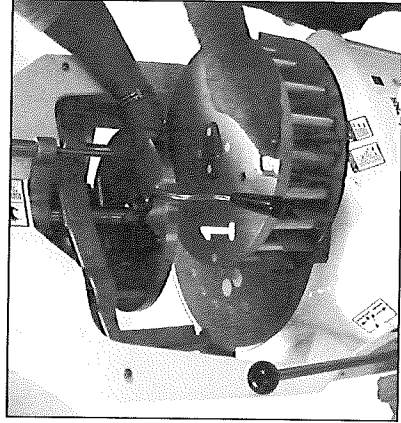

Figure 12
11. Remove head assembly (Fig 12, No. 1). This head can now be cleaned. (See pages 7 - 8).